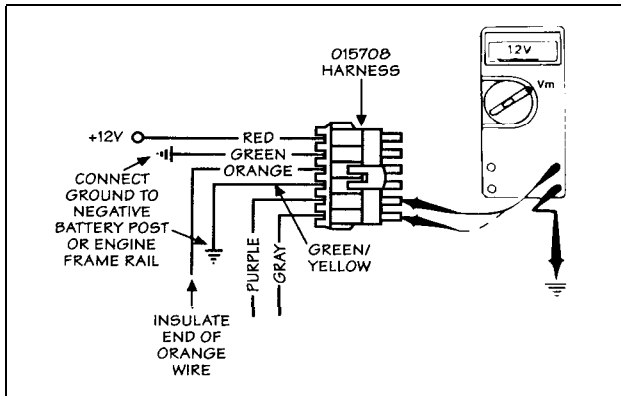

FIG. 1.1.21
**Optional Selector Switch:** Disconnect P/N 015708 harness from control module. Measure voltage at both PURPLE and GRAY wires. With selector switch in HI position, both wires should read +12 VDC (Fig. 1.1.21). If this condition is not present, check power supply, connections and switches. Repair or replace as required.